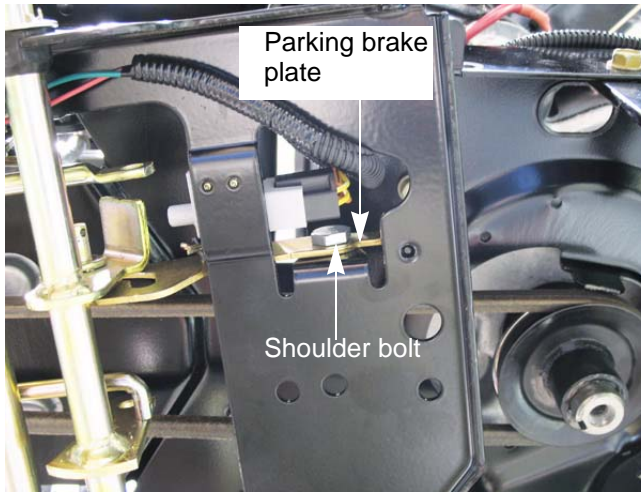

Figure 3.21
- Loosen the shoulder bolt that the parking brake plate pivots on. See Figure 3.21.